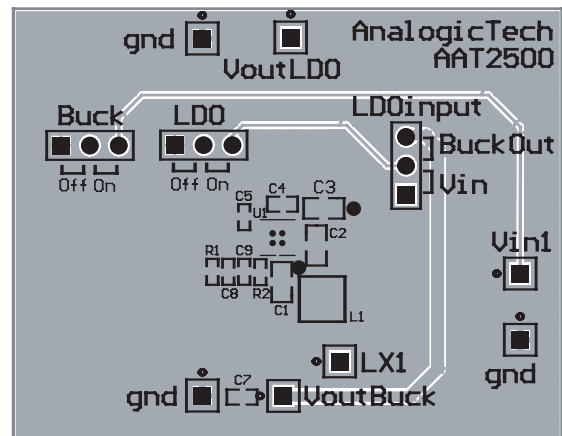

Figure 4: AAT2500 Evaluation Board Bottom Side.
1. The input capacitor C2 should connect as closely as possible to VP and PGND, as shown in Figure 4.